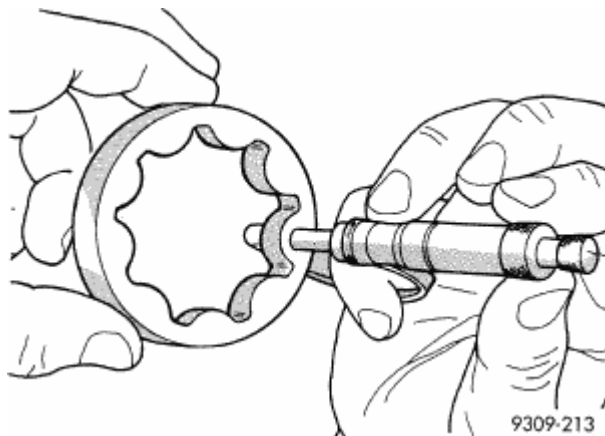

Fig. 188: Measuring Thickness & Diameter Of Outer Rotor
3. Measure thickness and diameter of outer rotor. If outer rotor thickness measures 7.64 mm (0.301 in.) or less, or if the diameter is 79.95 mm (3.148 in.) or less, replace outer rotor. See **Fig. 188**.